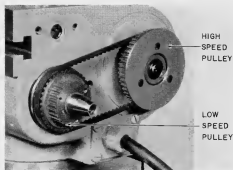

Figure 20A
Spindle and Wheel Speeds. The wheelhead motor running at 3600 rpm on 60 cycle, drives the wheel spindle at 3890 and 6530 rpm. The drive is from a two step pulley on the motor shaft through a tooth-grip belt to a double step pulley on the wheel spindle (Figure 20A). This is a positive drive and no adjustment is ever required.
When using 6" diameter grinding wheels and over, shift the belt to the inside pair of the double step pulleys, and when using smaller wheels, shift it to the outer pair of double step pulleys (Figure 20A).
2. Loosen socket head screw and remove the sheet metal belt guard (Figure 20A). **Note:** If a grinding wheel is mounted on this end of the spindle, wheel guard and wheel assembly must be removed first.